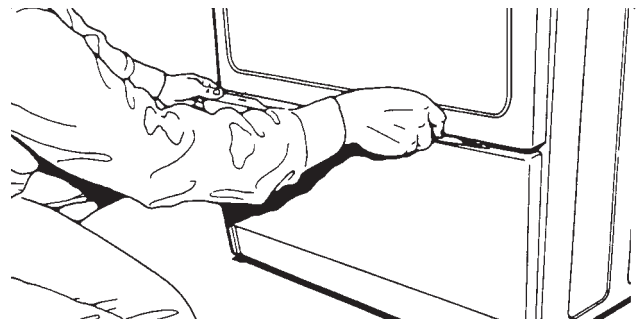

Fig. 4-15
1. Using a blade screwdriver, locate and release the two toe panel clips, approximately 4" in from each side. (Fig. 4-15)